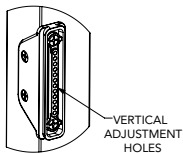

Figure 4
**NOTE:** The lower bracket has multiple holes to allow for vertical adjustment of the latch (Figure 4).